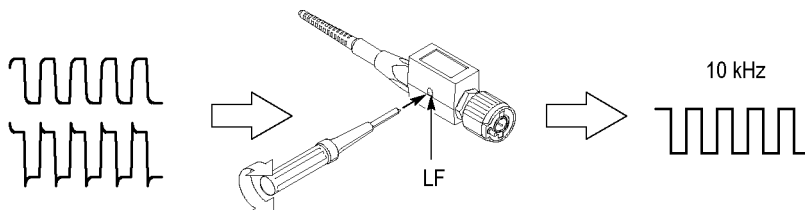

Figure 3: Coarse (LF) Compensation Adjustment
Connect the probe to the signal source to display the test signal on your oscilloscope. To get a clear signal display, select the averaging or high resolution mode on your oscilloscope. Compensate the probe by adjusting **LF** on the probe compensation box so that the corners of the square wave are square. (See Figure 3 on page 7.)
- You have installed the probe on an oscilloscope having an input capacitance near the limits of the probe compensation range. (See Figure 3 on page 7.)